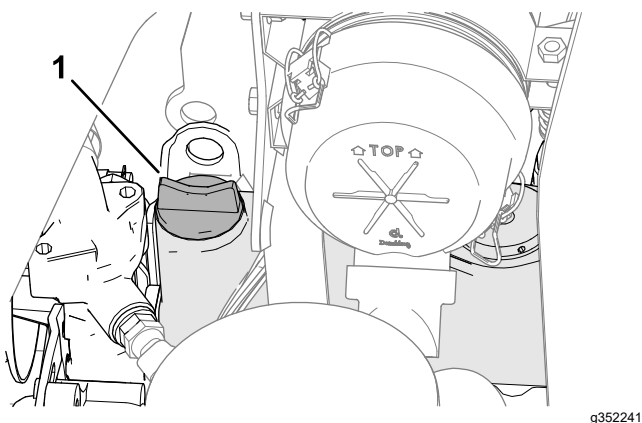

Figure 62
5. If the oil level is low, remove the oil-fill cap (Figure 62) and gradually add small quantities of oil, checking the level frequently, until the level reaches the Full mark on the dipstick.